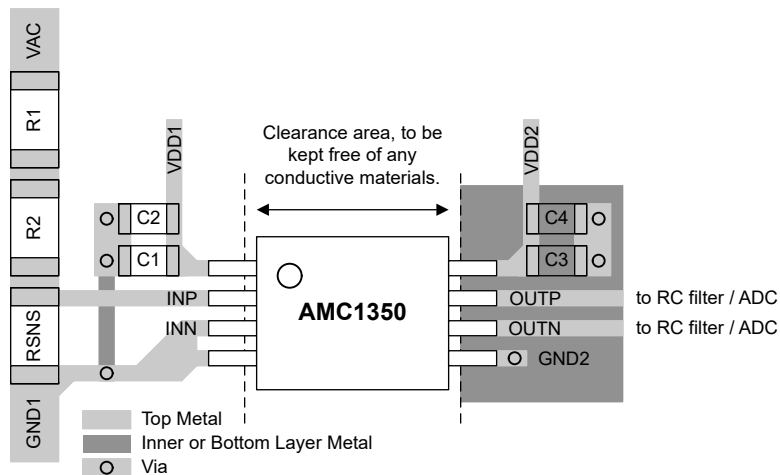

Figure 10-1. Recommended Layout of the AMC1350
Figure 10-1 shows a layout recommendation with the critical placement of the decoupling capacitors (as close as possible to the AMC1350 supply pins) and placement of the other components required by the device. For best performance, place the sense resistor close to the device input pin (IN).